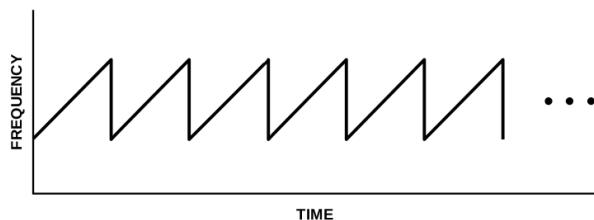
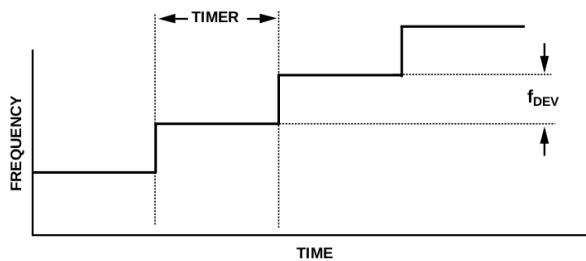

Figure 3.12: Sawtooth ramp.
Figure 3.13: Waveform timing.
The ADF4158 is capable of producing several different waveforms. The one used in this design is a sawtooth ramp in frequency as a function of time, shown in Figure 3.12. There are 3 different parameters that determine the shape of a ramp: (1) frequency deviation (the amount the frequency increases at each time step), (2) timeout interval (the amount of time between each time step) and (3) the number of time steps. This is shown diagrammatically in Figure 3.13. The equations governing these parameters are given in Equation 3.6. The number of steps is set directly in register 6. In our configuration  $f_{\text{DEV}} = 300\text{kHz}$  and Timer =  $0.5\mu\text{s}$ , which given that the number of steps is equal to 2000 and the starting frequency is 5.3GHz, the sawtooth will ramp from 5.3GHz to 5.9GHz in 1ms. We also use a delay between bursts of 2ms. Equation 3.7 is used to derive this.